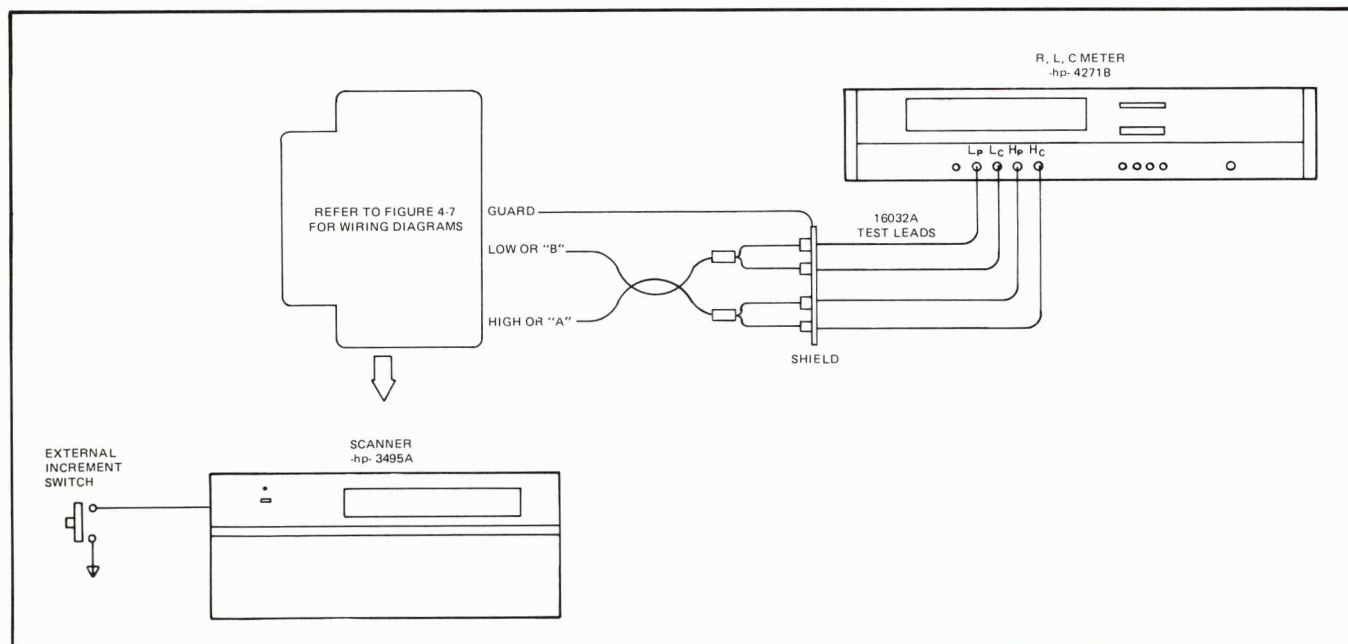

Figure 4-8. Capacitance Test Setup.
- Connect the test setup as shown in Figure 4-8. Allow the R L C meter 1 hour warmup time before proceeding.